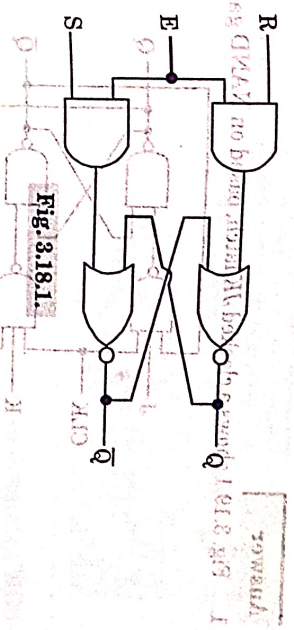

Fig. 3.18.1.
1. Fig. 3.18.1 shows a NOR-based SR latch with a clock added. The latch is responsive to inputs S and R only when CLK is high.